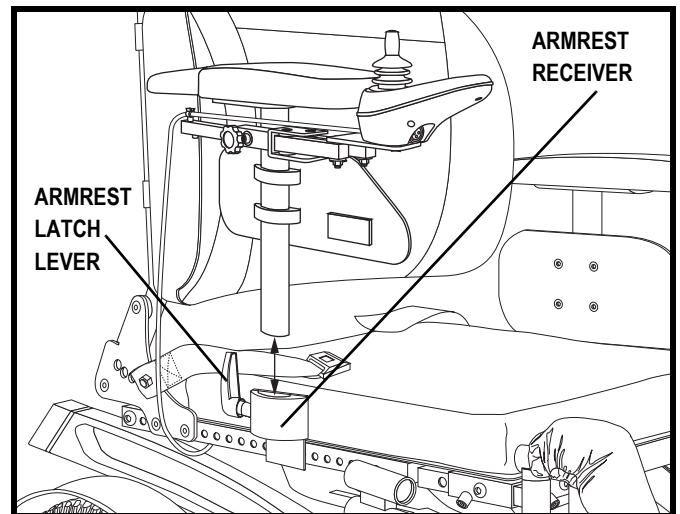

Figure 17. Armrest Removal/Installation
1. Loosen the armrest lever by pushing the armrest lever in and rotating the lever simultaneously. **See figure 17.**
1. Place the armrest assembly into the armrest receiver. **See figure 17.**
1. Loosen the armrest latch lever. **See figure 17.**
2. Remove the armrest. **See figure 17.**